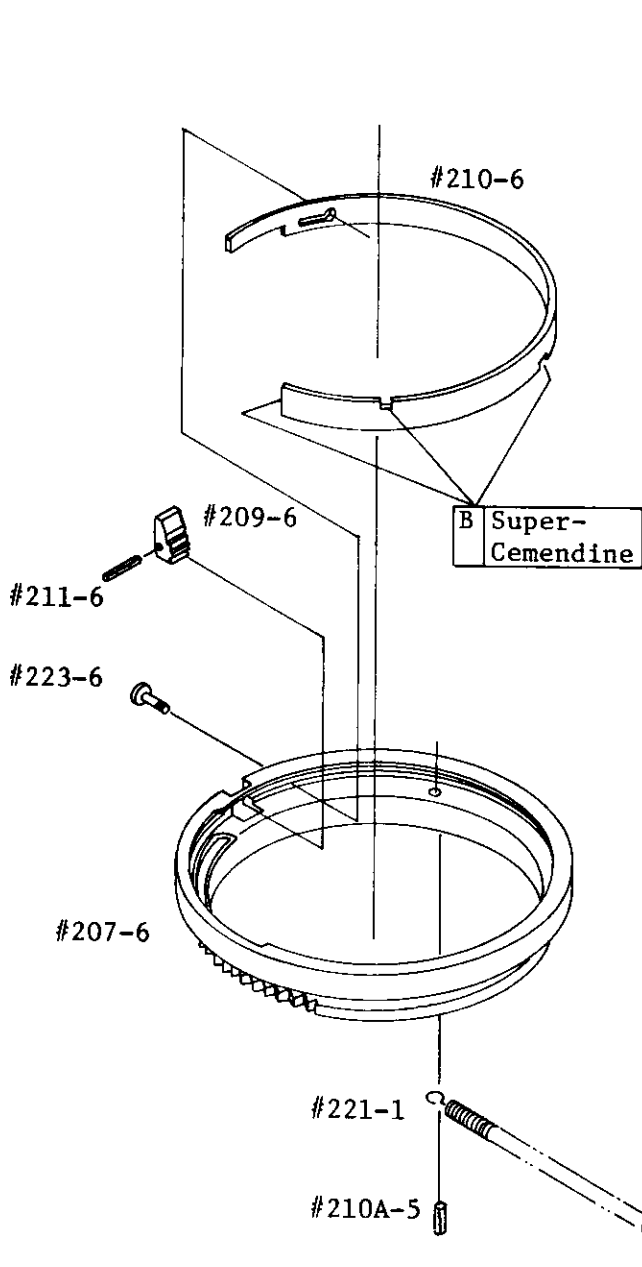

Fig. 7-1 Aperture coupling piece
- RN** Put #209-6 into the cutout of #207-6 to drop #211-6 in the slot of #207-6. See Fig. 7-1.